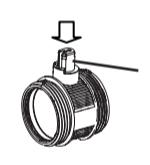

Fig.10
To replace the shaft, it has to be forced as shown in Fig.10. Once the shaft has been removed (1) the O-rings can be replaced (7) Fig.11.
❗ When reassembling the shaft, check that its slot is aligned/oriented with the housings in the neck of the body (see Fig.10).